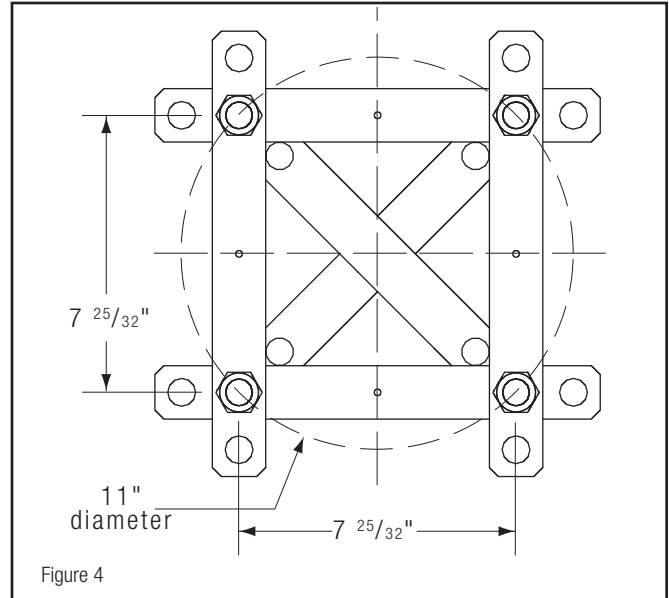

Figure 4
4. Before using the **Anchor Jig** verify that the center to center dimensions between the bolts are even (Figure 4). If not, adjust accordingly. Firmly tighten all **Hex Nuts**.